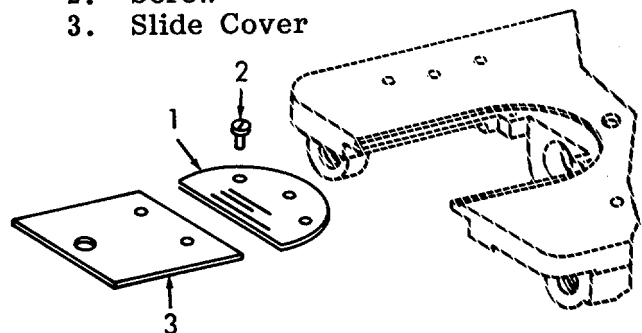

Figure 6-56. Slide and Throat Cover, Installation.
- (21) Refer to Figure 6-56. Place throat plate (1) into position.
- (22) Install two screws (2).
- (23) Install the slide cover (3) by sliding the cover into position.